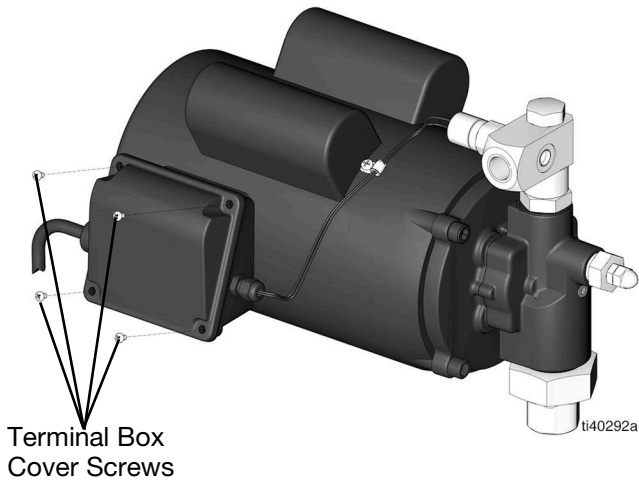

FIG. 22
5. Remove the four terminal box cover screws (FIG. 22).
14. Insert the four terminal box cover screws and tighten (see FIG. 22).